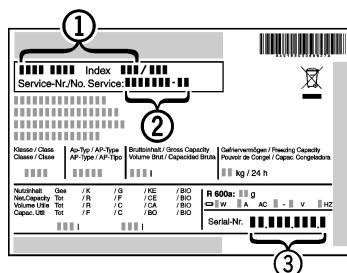

Fig. 9
- Read the appliance designation *Fig. 9 (1)*, service no. *Fig. 9 (2)* and serial no. *Fig. 9 (3)* from the rating plate. The rating plate is located inside the appliance on the left-hand side.
- Notify the Customer Service department, specifying the fault, appliance designation *Fig. 9 (1)*, service no. *Fig. 9 (2)* and serial *Fig. 9 (3)* no.